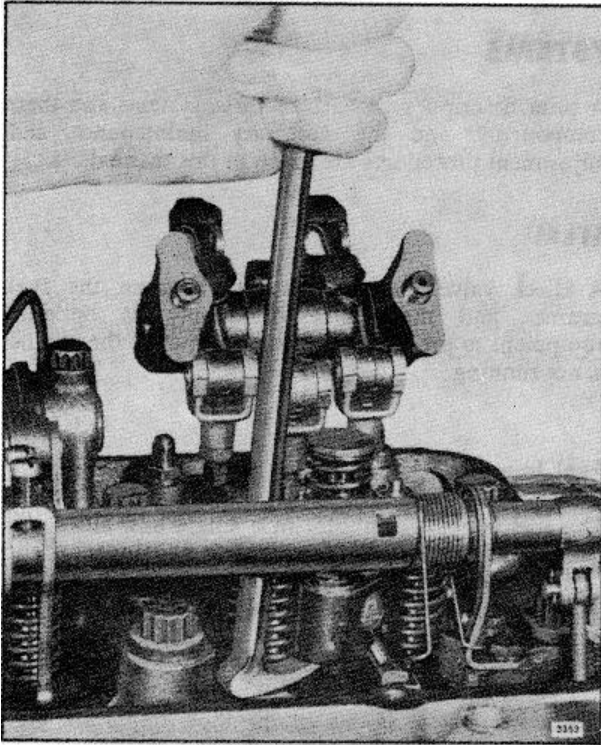

Fig. 3. Removing Injector from Cylinder Head
8. Free the injector from its seat as shown in Fig. 3 and lift it from the cylinder head.